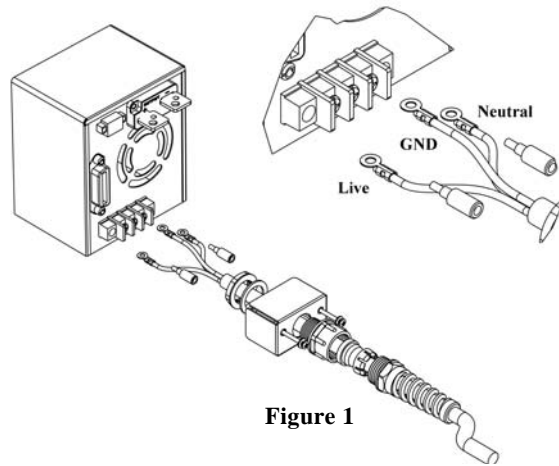

Figure 1
**WARNING: The AC input cord is a discrete device with the power supply. The input cord must be no longer than 9.84 feet (3m). Be sure the AC input cord is well connected according to Figure 1 and Figure 2 before operation.**